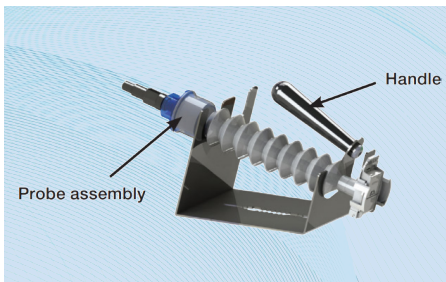

Figure 1
Sensors that measure pH, DO, capacitance, and biomass are traditionally made of glass or steel so that the sensor can be readily steamed in place when used in stainless steel bioreactors. When used in single-use (SU) bioreactors, the same sensors are sterilized by autoclaving inside of a closed system that is designed to attach to and insert the sensor into the single-use bioreactor without compromising the sterility of the sensor or the bioreactor (as shown in Figures 1 and 2). When used in single-use systems (SUS), conventional sensors come in many lengths. Traditionally, a sensor with a 12mm outer diameter (OD) is selected because the sensor conveniently fits within a standard ½-inch hose barb